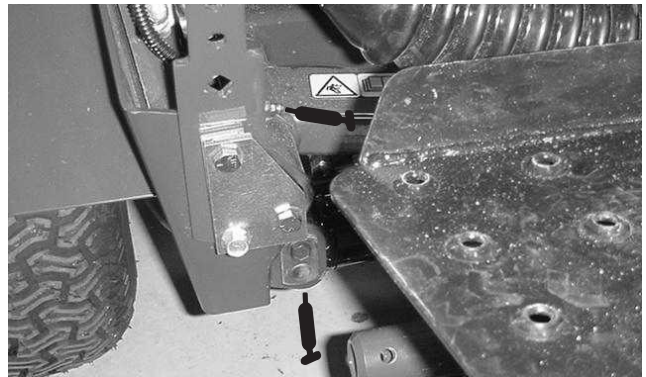

Figure 39
The traction unit bearings and bushings that must be lubricated are: steering column (Fig. 37), steering gears (2) (under the skirt below the steering sector), steering shaft (2) (Fig. 38), lift arms (3) (Fig. 39), rear lift cylinder pivot (Fig. 39), pivot rods (3) (Fig. 40), traction pedal pivot (Fig. 41) and neutral centering (Fig. 42)